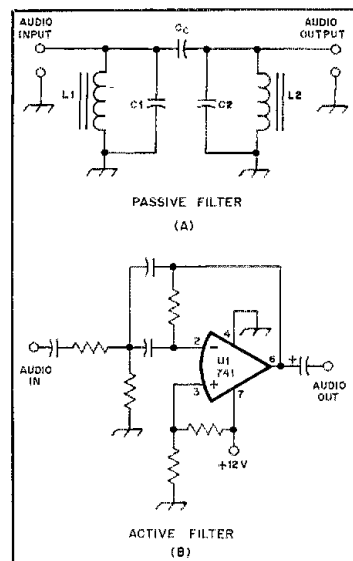

Fig. 2 — Simple examples of (A) an L-C type of passive audio filter and (B) one section of an R-C active filter. The latter requires an operating voltage.
Fig. 2 shows the essentials of an active and a passive type of audio filter. The circuit at A shows a simple two-section passive filter that employs two resonant circuits ($C1/L1$ and $C2/L2$). C_c is the coupling capacitor that joins the filter sections. All passive filters have some loss (insertion loss). On the other hand, active filters can be designed to provide gain. However, most designers set them up for a gain of 1 (unity) so that the gain distribution of the receiver remains the same as before the filter was added. The example at B of Fig. 2 shows one section of an active filter that uses an operational-amplifier IC (op amp). Usually, we will find two to four identical filter sections of this type in a band-pass R-C active filter — R-C meaning resistors and capacitors are used to establish the center or cutoff frequencies rather than elements of inductance (L) and capacitance (C). The latter would be called an "L-C filter." The more filter sections used, up to a practical limit, the steeper the sides (skirts) of the filter curve. A single-section filter of the kind shown at B of Fig. 2 would be of little value by itself, since the skirts of the response curve would be rather wide. They could be narrowed considerably by